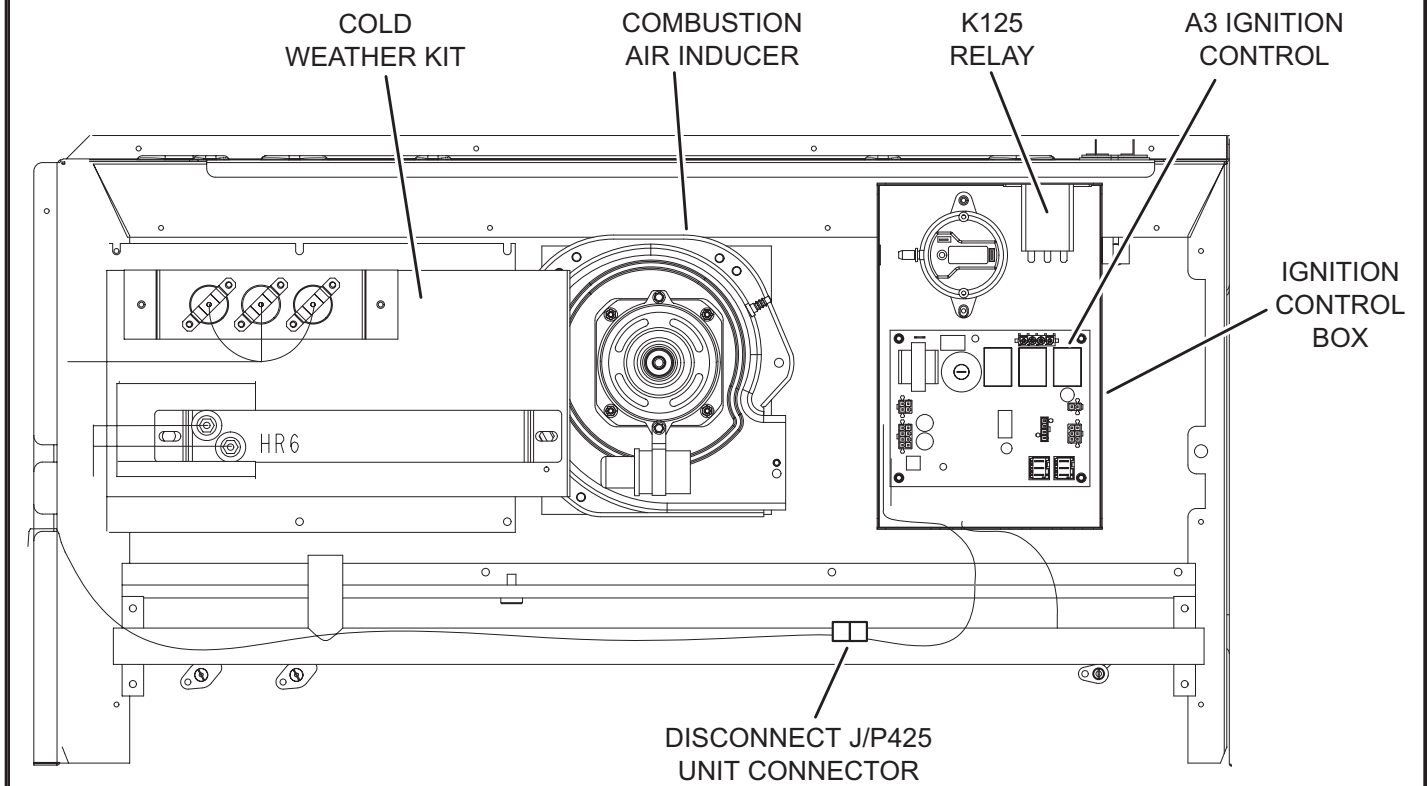
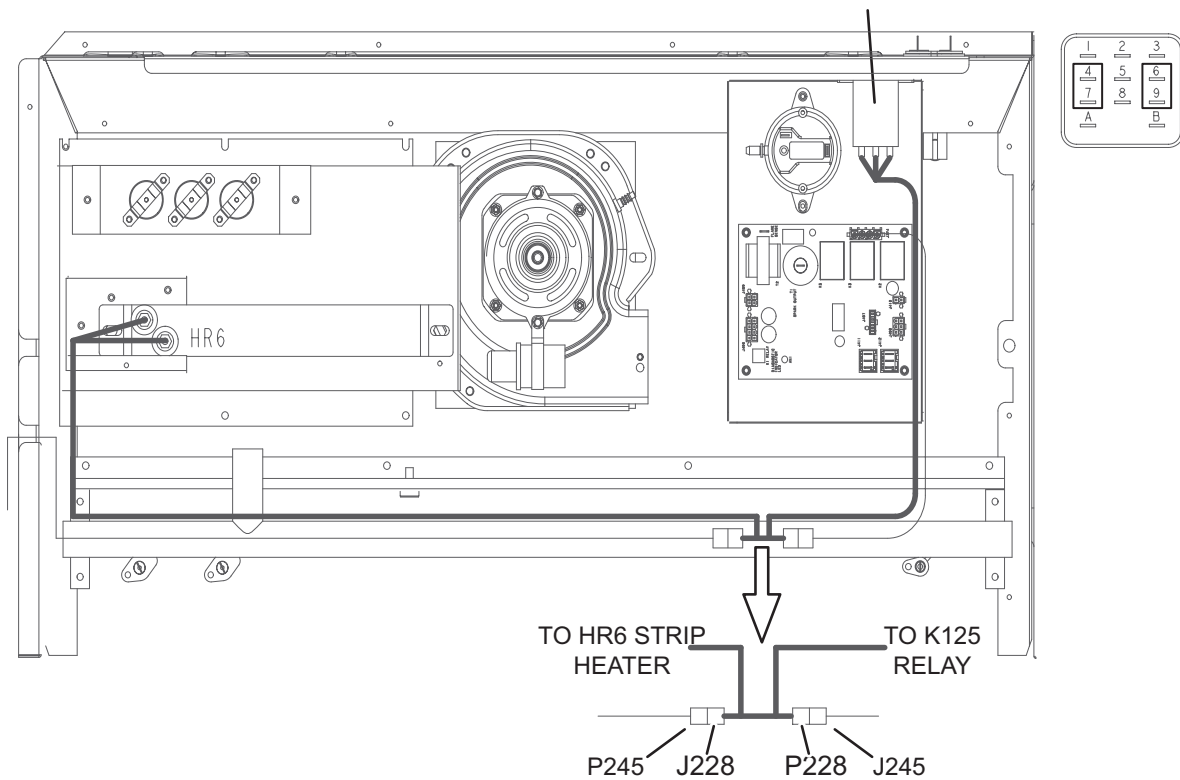

FIGURE 10
FIGURE 11
- 4 - Install heater assembly in heat section as shown in FIGURE 10. Use existing screws.
- 5 - Remove ignition control cover and install K125 as shown in FIGURE 10. Secure with #8 screws provided in kit.
- 6 - Disconnect unit J/P425 connectors. See FIGURE 10. Connect power harness J/P228 to J/P425. See FIGURE 11.